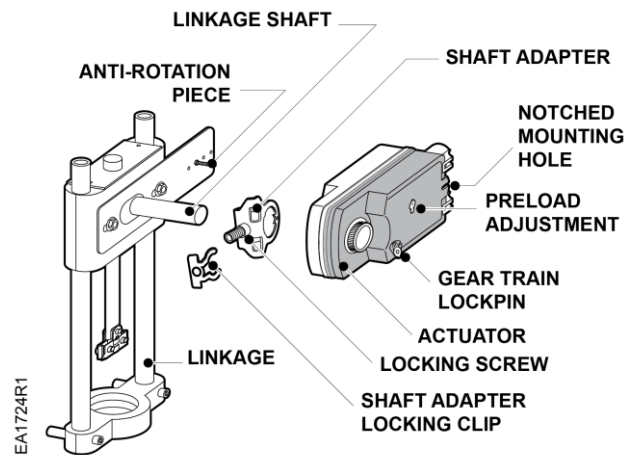

Figure 9. Mounting Actuator on Linkage for Normally Closed Control Application.
Normally Closed Control Applications (Figure 9)
2. With the shaft adapter locking screw loose, open the rubber cover and insert the 3 mm hex key in Manual Override opening (Figure 9).